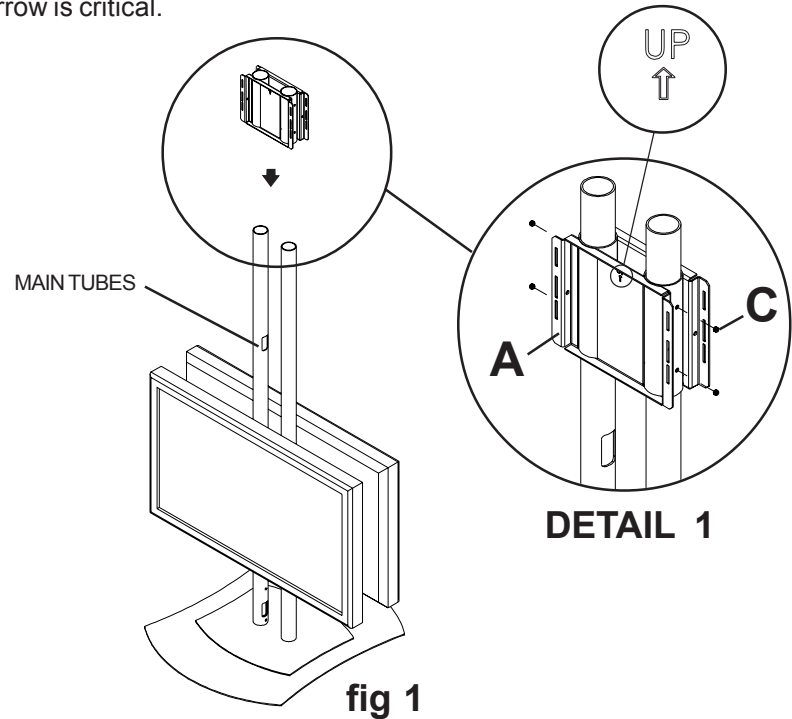

fig 1
- Make sure previously installed carriage and screen(s) are positioned low enough to allow carriage (A) and additional screen(s) to be installed. Slide carriage (A) onto main tubes. Slide carriage to desired height and secure using four set screws (C) as shown in figure 1 and detail 1. Tighten screws using 4 mm allen wrench (M).